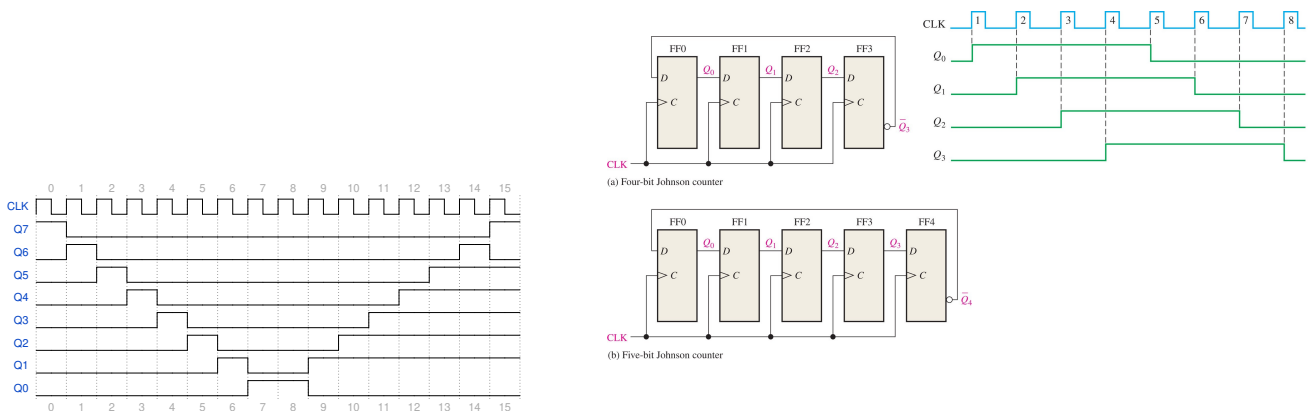

Figure 4: (Left) A waveform that repeats every 16 clock periods. (Right) Johnson counters (4 and 5-bits), and the timing diagram for the four-bit case.
1. Consider the timing diagram in Fig. 4. Using any combination of *shift registers* and supporting gates, create a circuit with 8-outputs that produces this timing diagram.
- Consider Fig. 4 (right), in which 4 and 5-bit Johnson counters are depicted. (a) Create a circuit based on Fig. 4 (right) called a *combinatoric trigger*. Imagine four digital channels A, B, C, and D, as inputs. The output of the circuit should be True if *any two* of the four channels is True *within 100 ns of each other*. Develop any necessary logic symbols, and use the appropriate clock frequency. The Johnson counter(s) can have any number of bits.